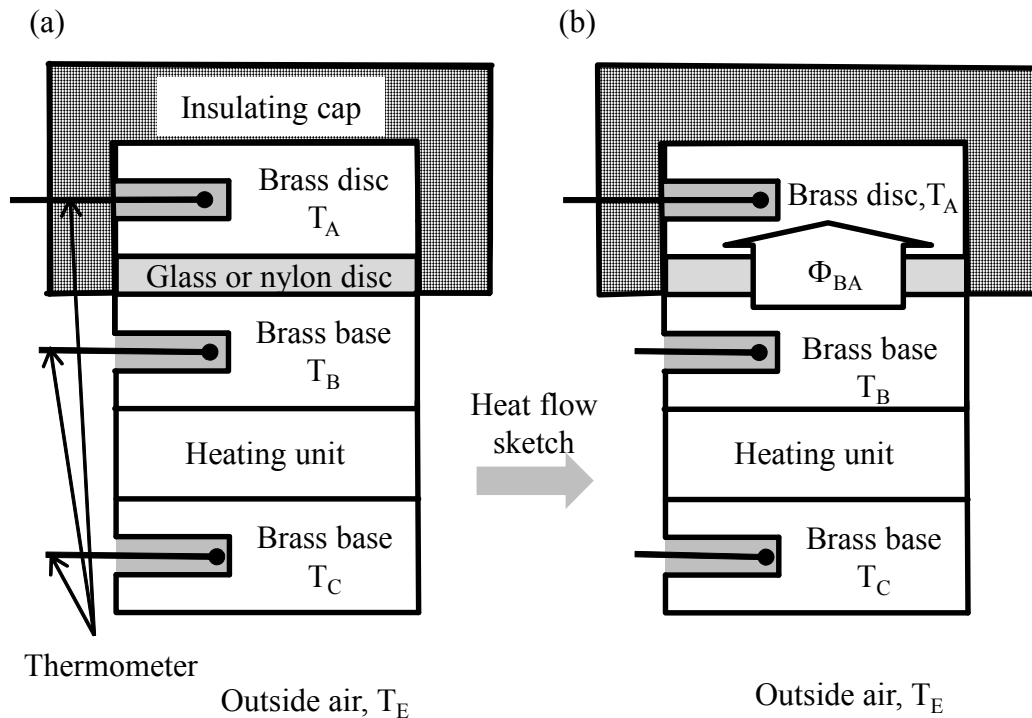

Figure 9.2 : (a) sketch of the setup with the insulating cap, (b) heat flow in this case
- Put the glass or nylon disc above the heating unit. Put a cold brass cylinder above. To finish put the insulating cap around the upper brass cylinder (see figure 9.2.a). Put the hot brass cylinder in a position where it can cool quickly.